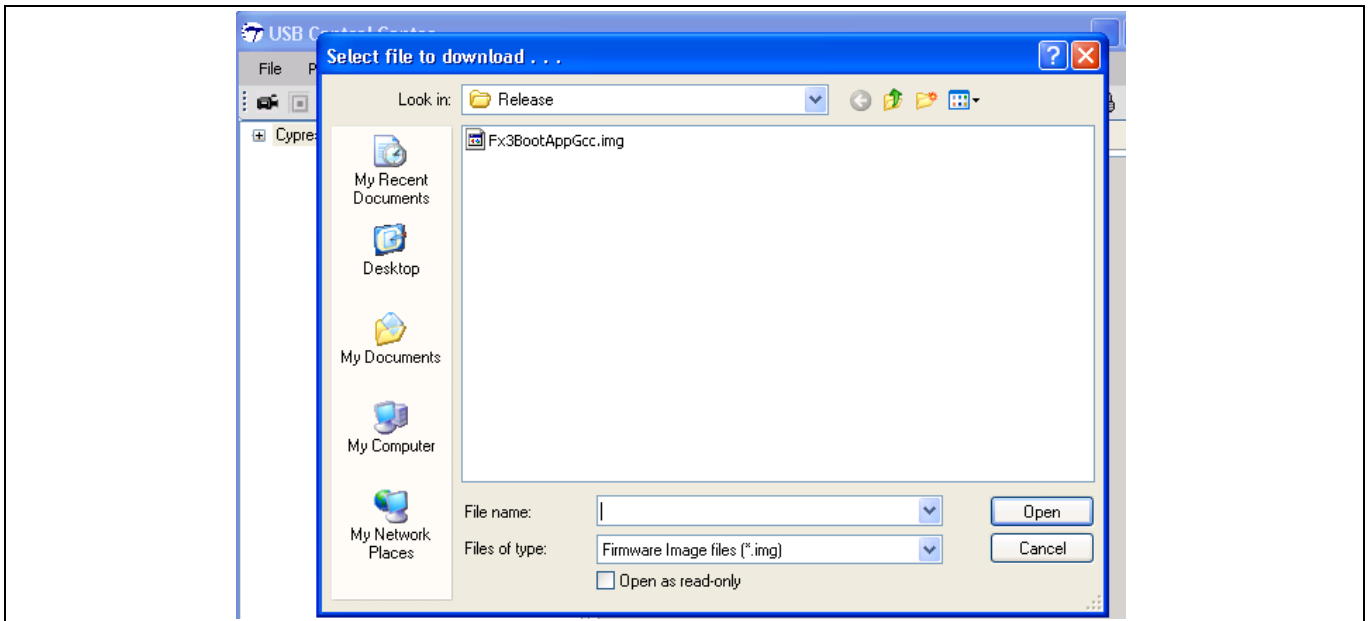

Figure 18 Select .img file
5. Next, browse to the *.img* file to be programmed into the FX3™ RAM. Double-click on the *.img* file, as shown in Figure 18.